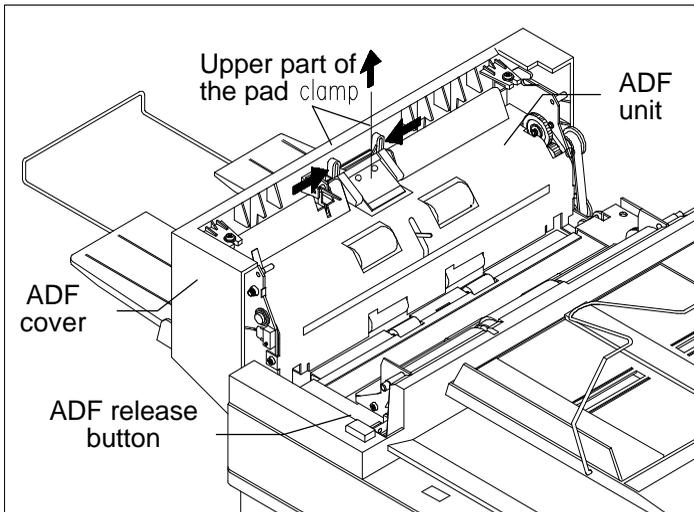

Figure 1 Remove the pad module
2. Remove the ADF detachable pad module by pulling out the upper part of the pad clamp as shown in Figure 1.